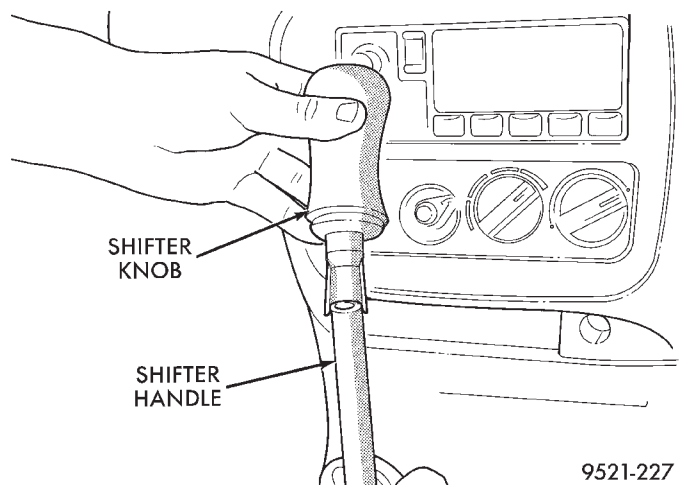

Fig. 8 Knob Removal
- (3) Remove knob from shifter handle (Fig. 8).